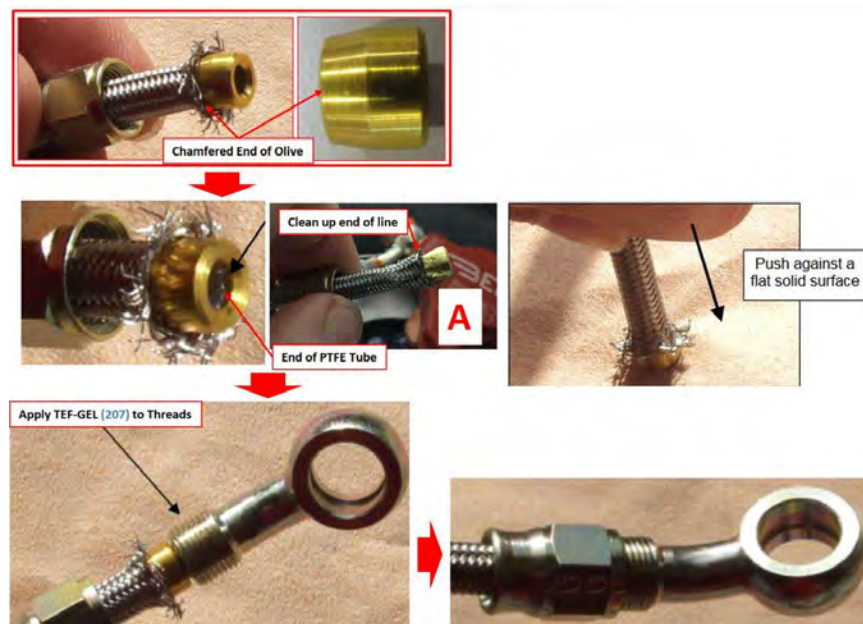

FIGURE 14-17
6. Push the chamfered end of the olive onto the PTFE inner liner and under the stainless steel braid, making sure that all stainless strands are outside of the olive (see Figure 14-17).